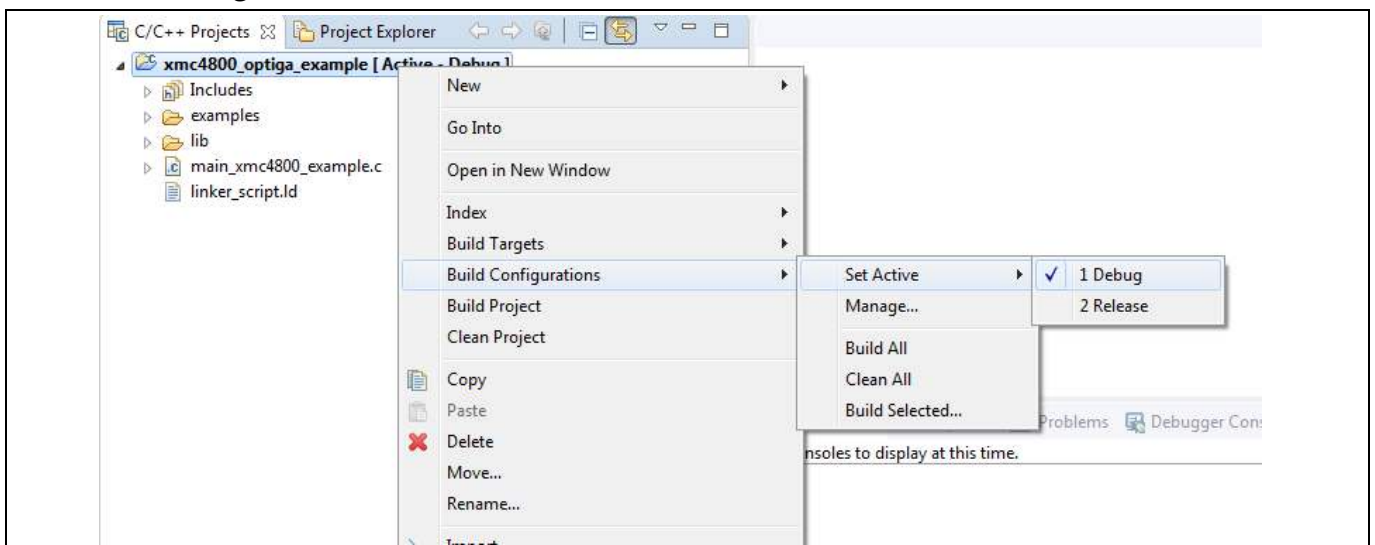

Figure 22 Build configuration selection
15. To build project in release configuration, select the build configuration as **Release** as shown in Figure 22 and build the project again.